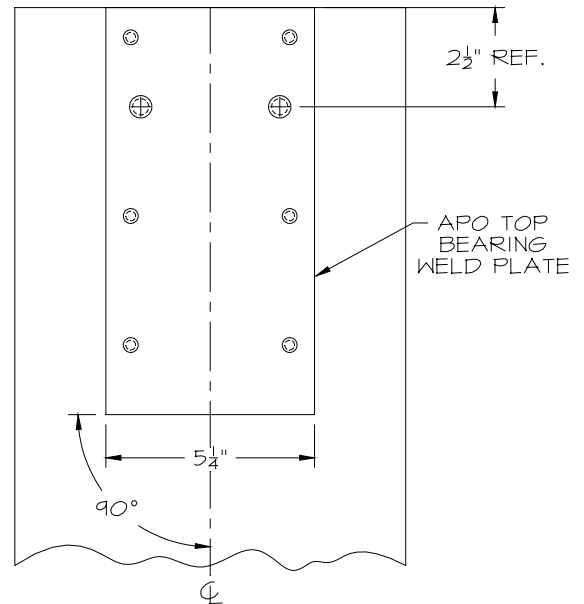

FIG. 19
- b. **Center studded weld plate** at top of jamb (Figure 19).